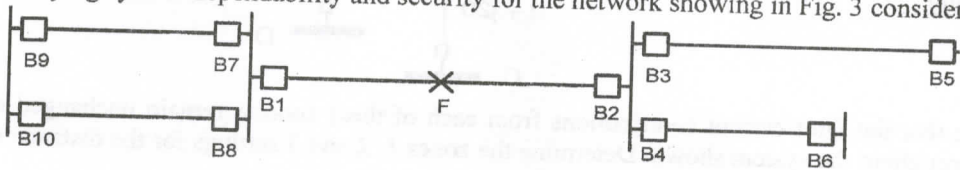

Fig. 3
- f) Discuss the relaying system dependability and security for the network showing in Fig. 3 considering fault F.